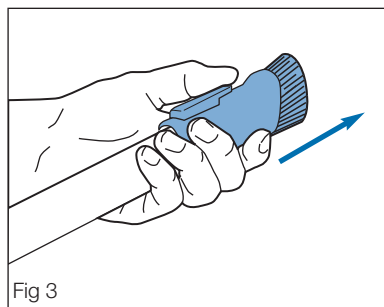

Fig 3
- Align ribs on wand into grooves at top of vacuum (Fig. 3).
- To use, press dusting brush button ③ and slide brush to end of wand until it clicks (Fig. 3).